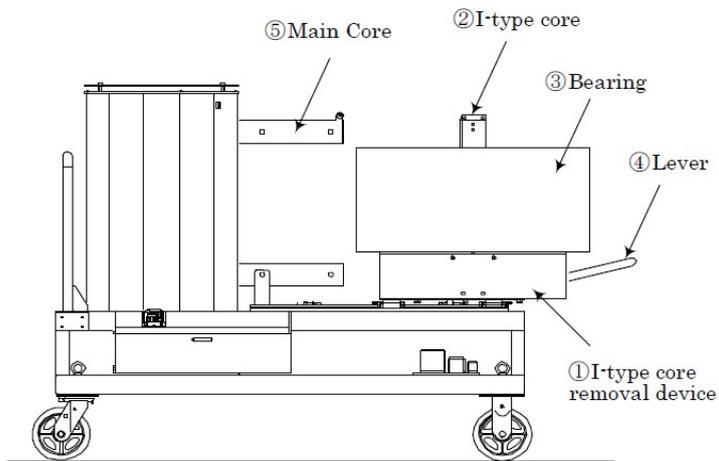
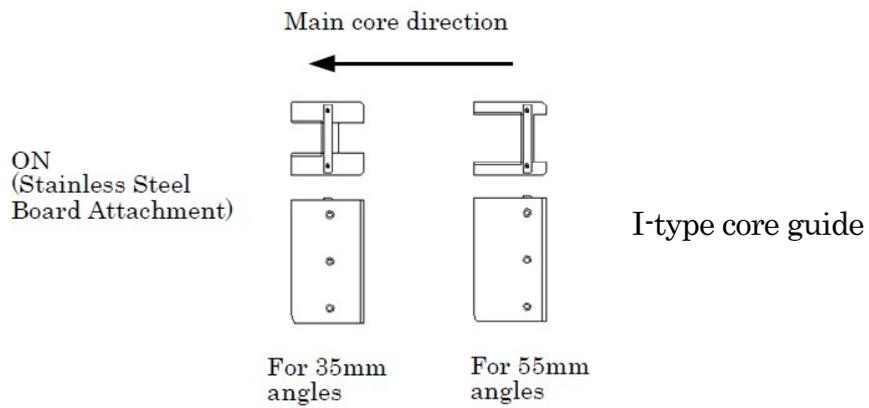
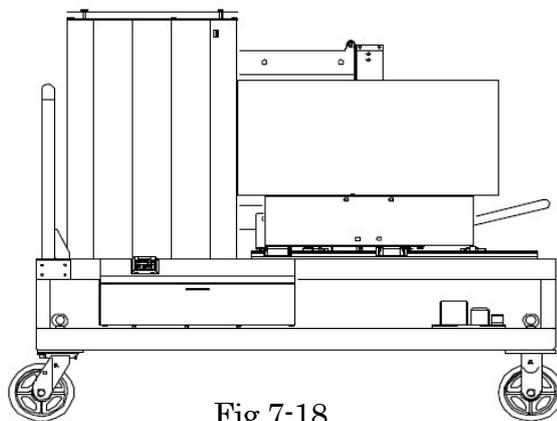

Fig 7-16
Fig 7-17
Fig 7-18
- (i) Ensure that the ① I-type core removal device is drawn to the far-right portion as shown in Figure 7-16.
- (iii) If you use the ② I-type core other than the largest cross-section for the type, insert the I-type core guide shown in Figure 7-17 into the core insertion part of the I-type core removal device. (The side with the stainless steel board is to be upside.)
- (iv) Place the ③ bearing on the I-type core removal device
- (v) Stand the ② I-type core on the ① I-type core removal device as indicated in Figure 7-16.
- (vi) Lower the ④ lever and slide it toward the ⑤ main core.
- (vii) Release the ④ lever after the ② I-type core touches the ⑤ main core as indicated in Figure 7-18.
- (i) From the state of Figure 7-18, lower the ④ lever and pull it until it is as shown in Figure 7-16.
- (ii) Detach the ② I-type core.
- (iii) Remove the ③ bearing from the I type core removal device. When you do this, be sure to use gloves since the bearing is hot.